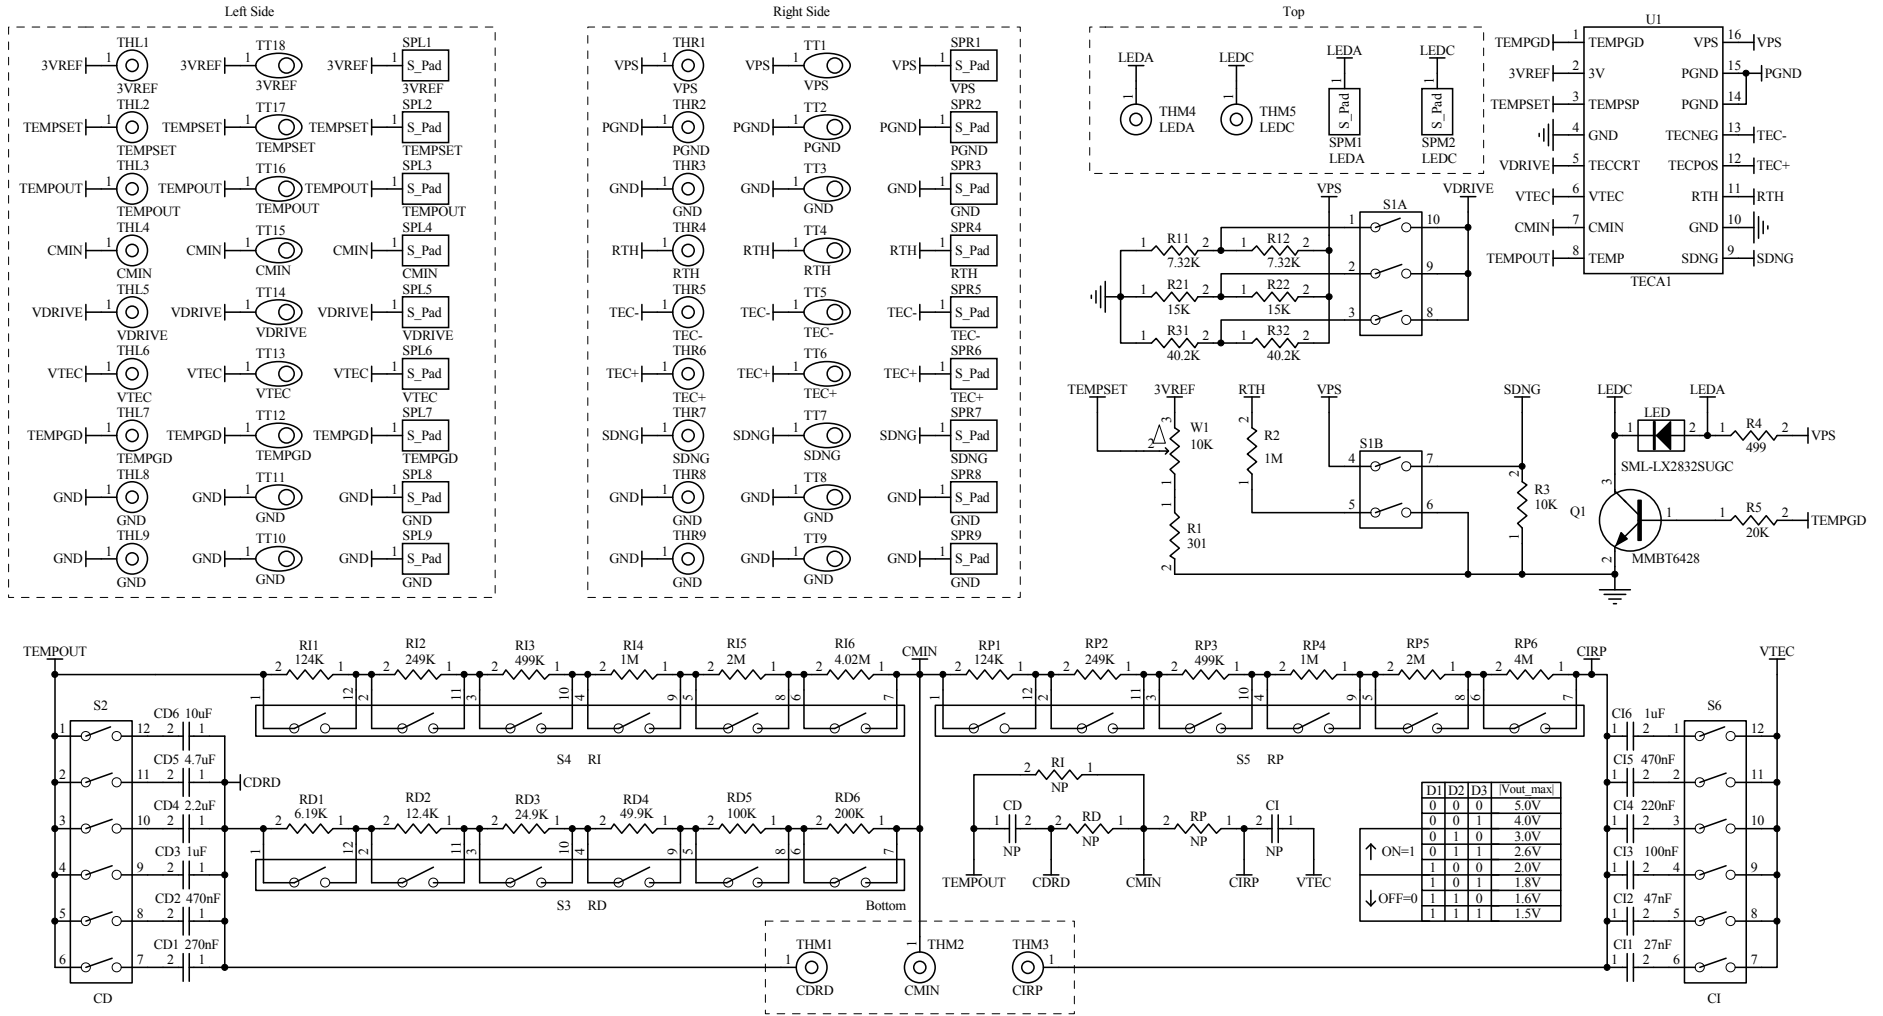

Figure 7. Schematic of TEC Controller Evaluation Board TECEV104
The schematic is shown in Figure 7.
- f. To control the TEC voltage directly by using a DAC, connect VTEC to the output of the DAC and use this formula:  $TEC\ voltage = 2.5V - V_{VTEC}\ (V)$ . to one of its digital outputs. When pulling low, the TEC controller is shut off. When pulling high SDNG, the TEC controller is turned on.
- g. To shut down the TEC controller by using a microprocessor, turn off the Shutdown Control switch, connect SDNG test point (3rd row from the bottom side, on right side of the board) h. The evaluation schematic is given in Figure 7.